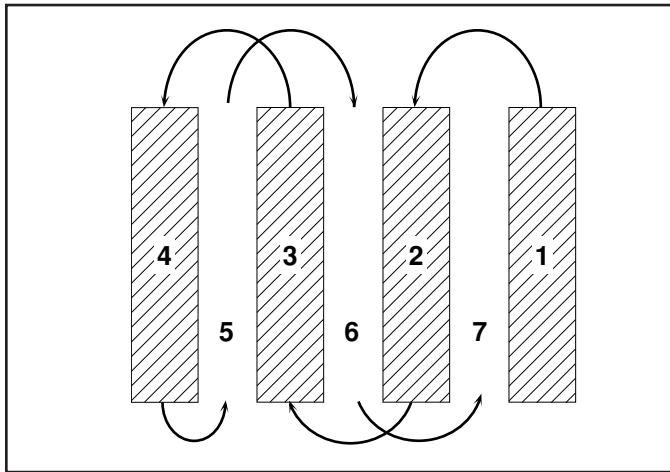

FIG. 15
## TILLING HINTS (See Fig. 15)
- You will find tilling much easier if you leave a row untilled between passes. Then go back between tilled rows. (See Fig. 15) There are two reasons for doing this. First, wide turns are much easier to negotiate than about-faces. Second, the tiller won't be pulling itself, and you, toward the row next to it.